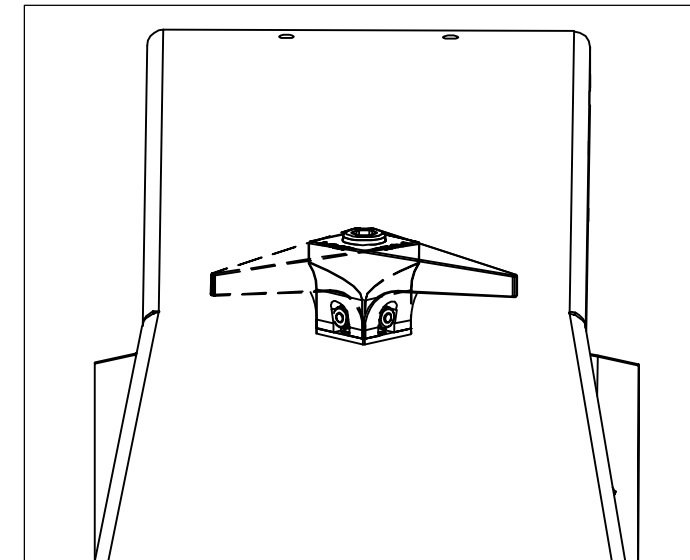

FIGURE 3: CHECK DETENT FUEL HANDLE MOVEMENT
Step 4: After installation, ensure the handle lifts, rotates and seats correctly. For vertical position adjustment refer to Page 37-2, Figure 1. Add or remove the AN960-416 Washers, between the Fuel Valve and the F-1048C-1 Fuel Valve Bracket, until the Detent Fuel Handle contacts the Detent Plate when seated. Fuel Handle shown seated in Figure 3.